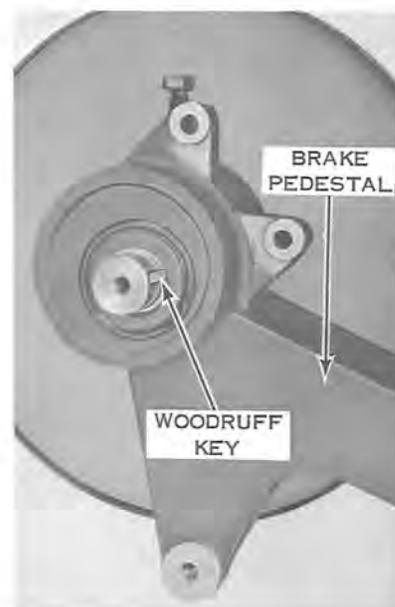

Figure 9-13
- d. Assemble eccentric, spacer, and bearings to shaft. Install secondary sheave shaft and eccentric in mounting pedestal. Place No. 10 Woodruff key in shaft (see Figure 9-13). Install brake disc, sprocket, washer, and screw.